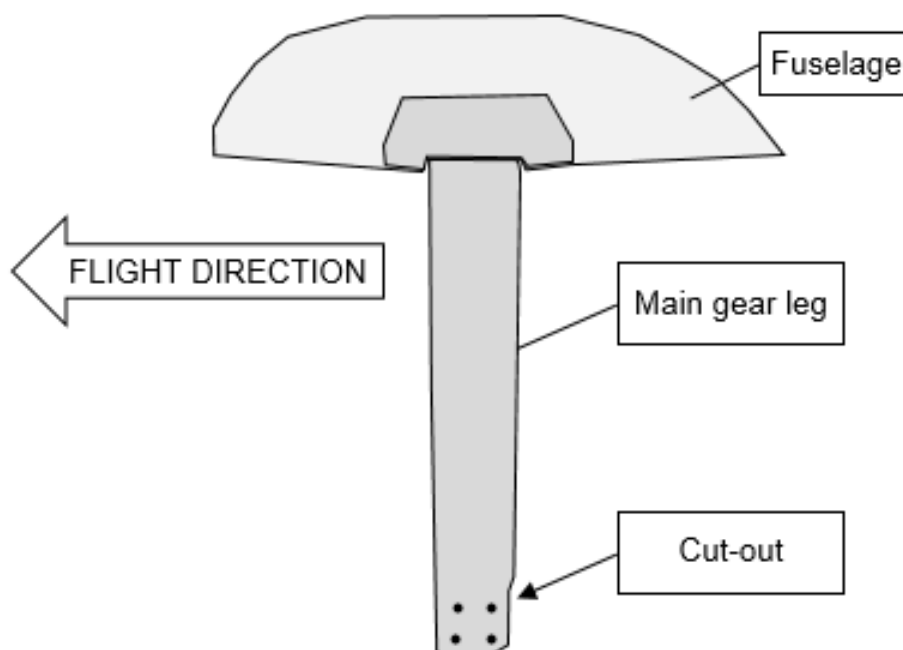

Fig.2 Main gear leg installation (illustrative sketch)
- 2.2 Be careful of correct position according to the flight direction. The leg has to be installed so that the cut-out on the leg bottom part must be on the rear side, see Fig.2 above.